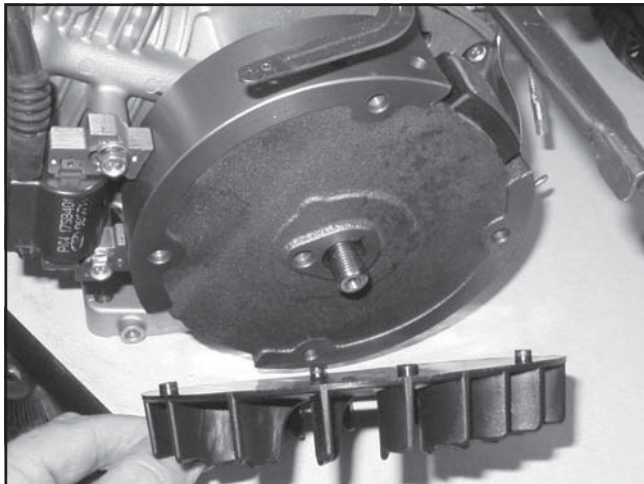

Figure 9-39. Remove CH270 Flywheel Fan.
2. Remove the drive cup and fan from the flywheel. See Figures 9-39 and 9-40.